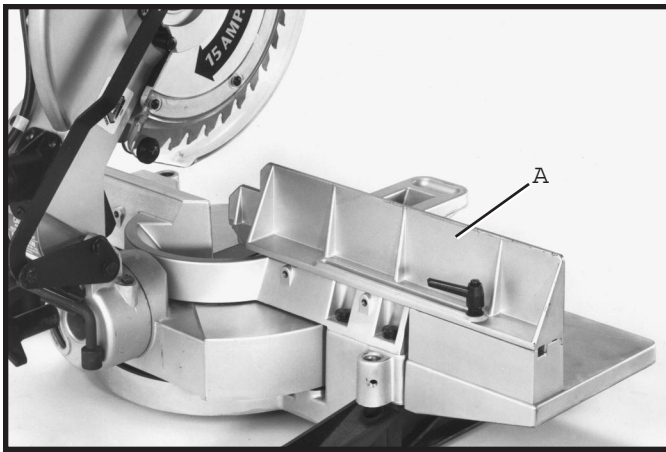
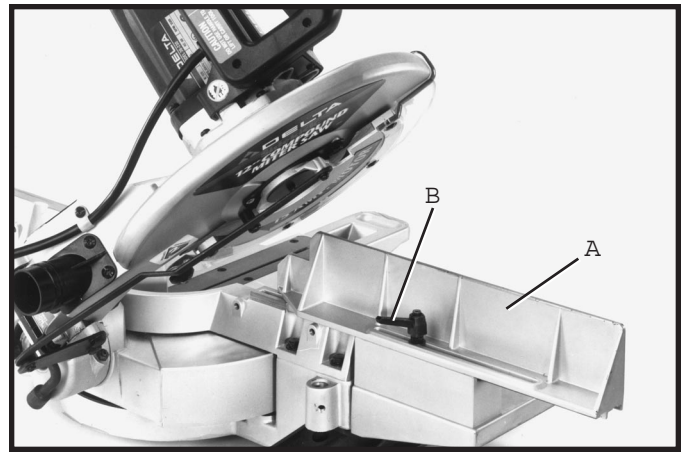

Fig. 28A
Fig. 28B
1. The high sliding fence (A) Fig. 28A, provides support for extra large workpieces used with your saw and should always be set as close as possible to the saw blade. When miter cutting (blade set 90 degrees to the table and at an angle to the right or left), the fence should be set all the way to the right, as shown in Fig. 28A. When bevel cutting, however (blade tilted at an angle to the table), the fence (A) Fig. 28B, should be moved to the left to allow for proper clearance for the saw blade and guard, as shown in Fig. 28B. This can be accomplished by loosening lock handle (B), sliding the fence (A) to the desired location and tightening lock handle (B). NOTE: Lock handle (B) is spring-loaded and can be repositioned by pulling up on handle and repositioning it on the serrated nut located underneath handle.